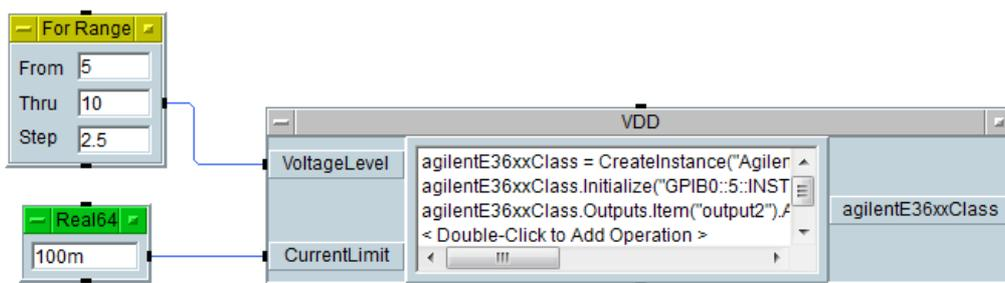

Fig. 18: Connecting For Range and Real64 Constant objects to IVI driver object
16) Fill the text boxes in For Range object as shown in Fig. 18. (From=5, Thru=10, Step=2.5). We will obtain VTC of the NMOS inverter for $V_{DD}=5, 7.5$ and 10 V.